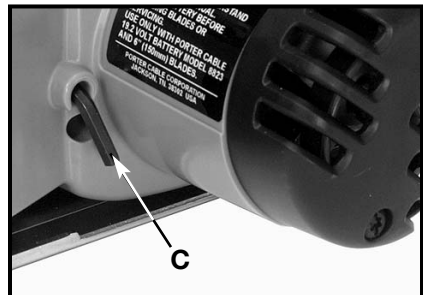

Fig. 4
1. Pull the blade wrench (C) Fig. 4 from the storage pocket on the right side of the saw.
5. Push in the blade lock and rotate the blade arbor by hand until the lock engages the arbor. Tighten the blade retaining bolt with the blade wrench (C) Fig. 4 just enough to prevent blade slippage during normal cutting, and release the blade lock.